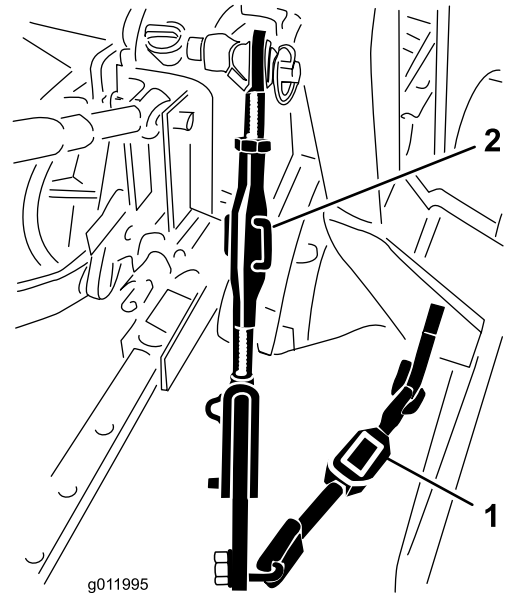

Figure 8
1. Adjust the lower links inboard until they contact the blower mounting plates (Figure 8).
2. Turn the adjustable-link body (if provided) to raise or lower the link arm until the blower is leveled from side to side (Figure 8).